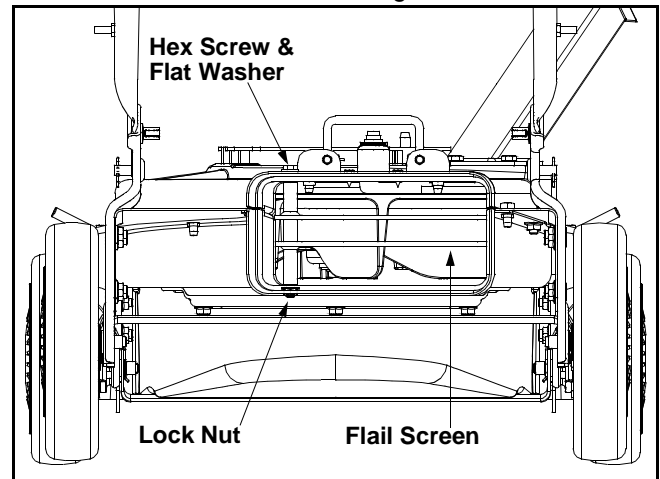

Figure 10
- Remove the bag or blower chute from the unit as instructed in the OPERATION section to obtain access to flail screen. See Figure 10.
- Remove hex screw and flat washer on top of rear housing mounting bracket and the lock nut that secures flail screen. See Figure 10.